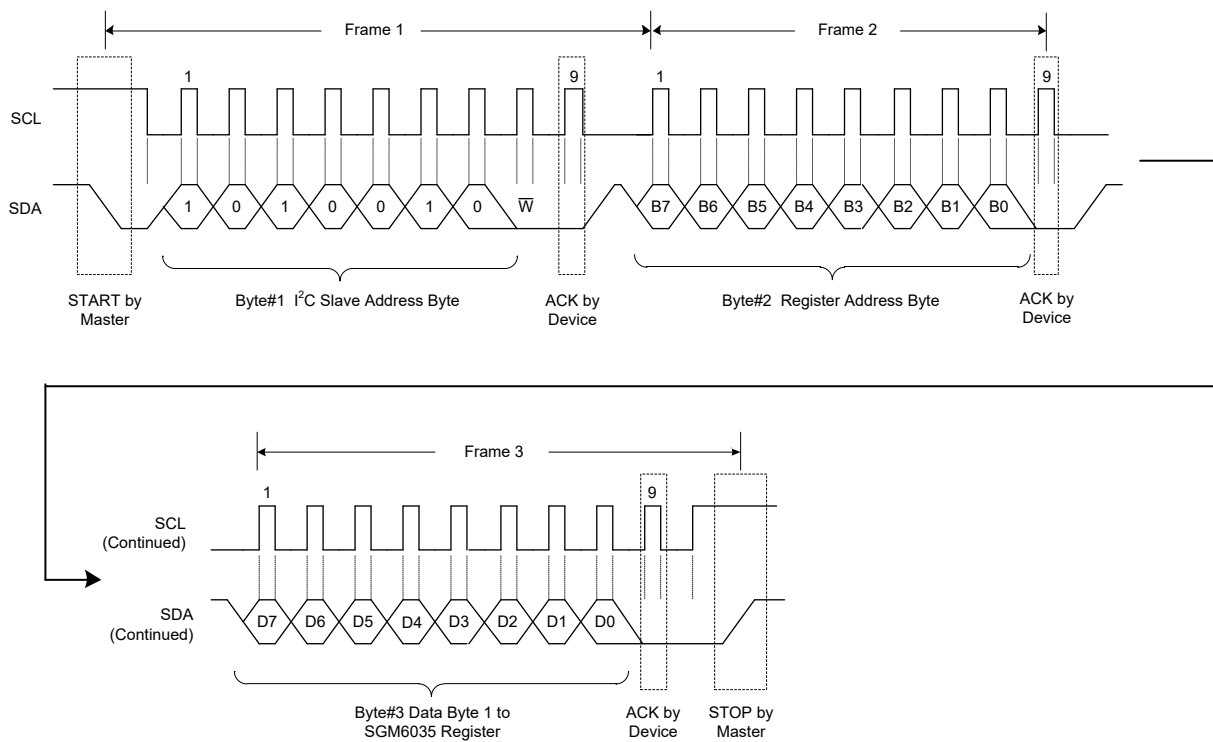

Figure 8. A Single Write Transaction in Standard, Fast and Fast Plus Modes
**WRITE:** If the master wants to write in the register, the third byte can be written directly as shown in Figure 8 for a single write data transfer. After receiving the ACK, master may issue a STOP condition to end the transaction or send the next register data, which will be written to the next address in a slave as multi-write. A STOP is needed after sending the last data.